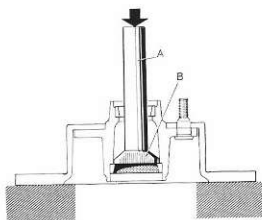
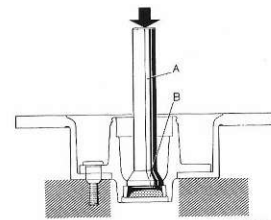

Fig. 7-22. Removing inner bearing ring
Fig. 7-23. Removing outer bearing ring
5. Remove the bearing rings. Use drift 2724 (Fig. 7-22) for the inner bearing ring and drift 2725 (Fig. 7-23) for the outer bearing ring together with standard handle 1801.